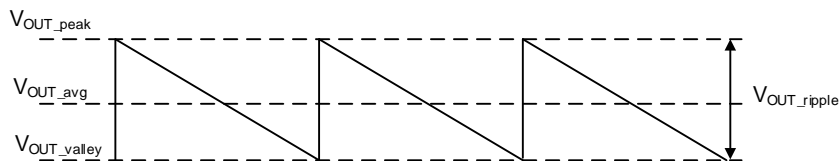

Figure 3. Output Voltage Waveform
Since the RT5716 adopts valley control in PFM mode, which means that the switching node (SW) starts to switch when the output voltage drops to the valley voltage (see Figure 3), the average output voltage ( $V_{OUT_{avg}}$ ) can be calculated by Equation 1: